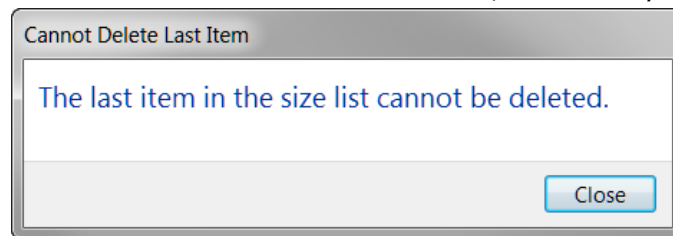

Figure 224 - A very simple task dialog with only main instructions for text
- See Figure 224 for an example of a purely informative task dialog with a close button